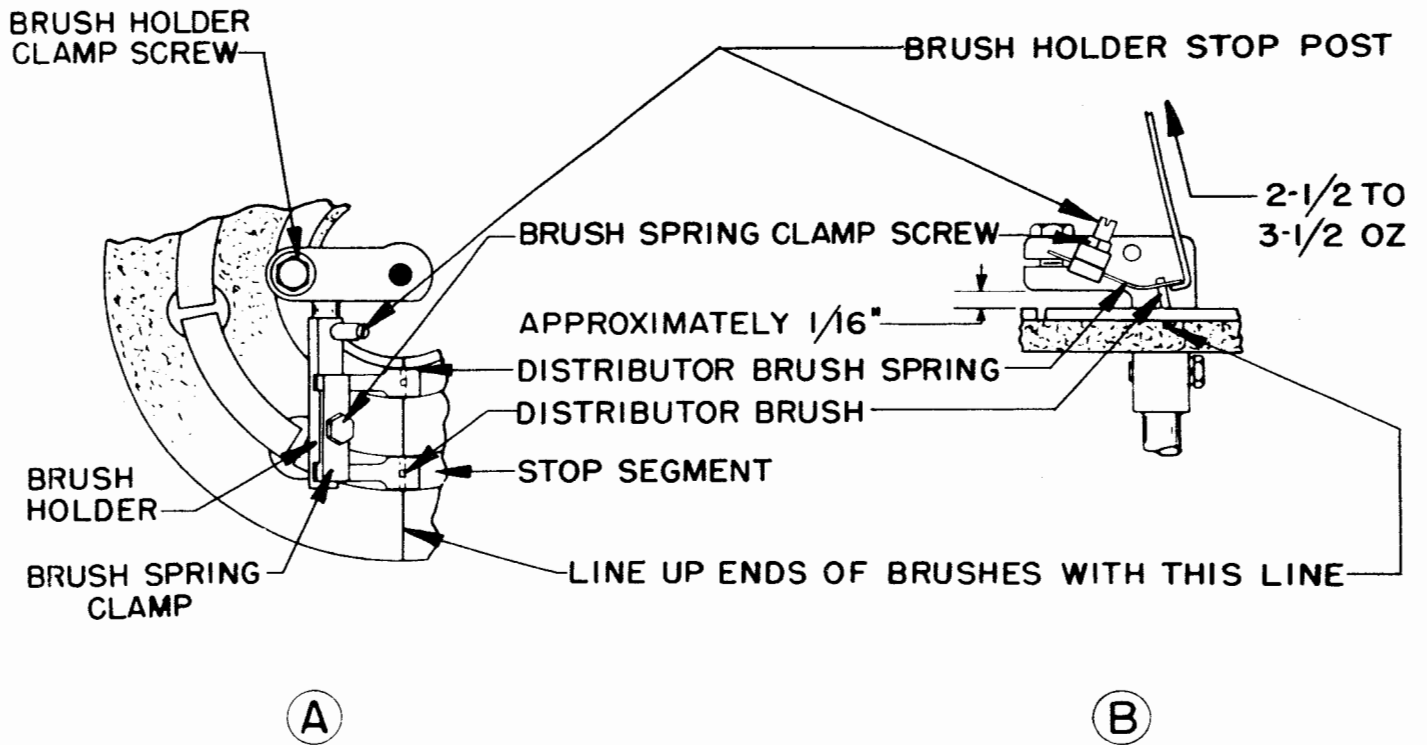

Figure 36
7.01 The contact pressure of carbon brushes shall be readjusted occasionally to compensate for brush wear. This is done by rotating the brush holder and resurfacing the brushes. (See Figure 36.)
7.02 Brush Position: (1) With the main shaft in the stop position (the lug on the stop cam against the blocking edge of the stop arm or stop lever), the trailing edge of the brushes shall make contact with their associated segments at a point in line with the line impressed on the commutator disc. [For 100-wpm operation the brushes shall be cocked or slanted as in 14.01(b).] (2) The brushes shall also remain within the edges of the rings throughout a complete revolution of the main shaft. [See Figure 36(A).]
7.04 Brush Spring Tension, 60 or 75 wpm: It shall require minimum 2-1/2 ounces, maximum 3-1/2 ounces to lift brush from segment. Gauge the contact break with a lamp, buzzer, or ohmmeter. [See Figure 36(B).]